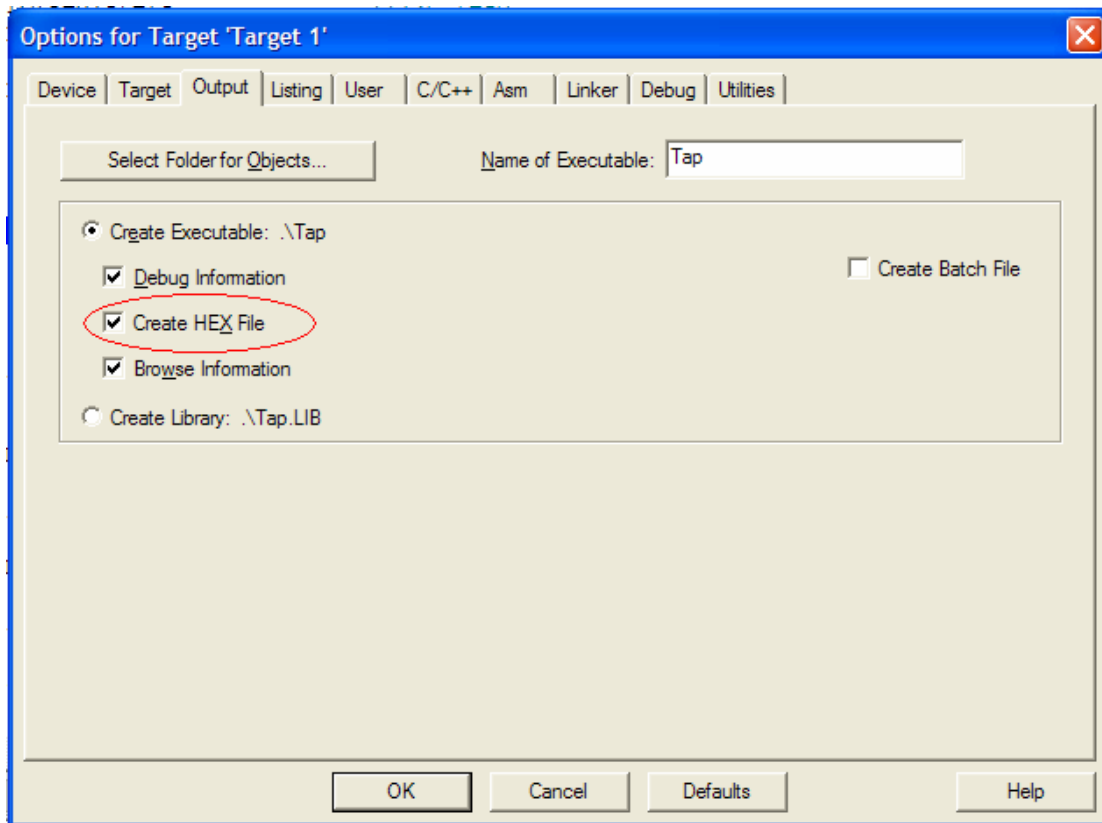

Figure 6
(2) Choose “Create HEX File” under Output tab so that we can get .hex file to download as figure 6 shows.